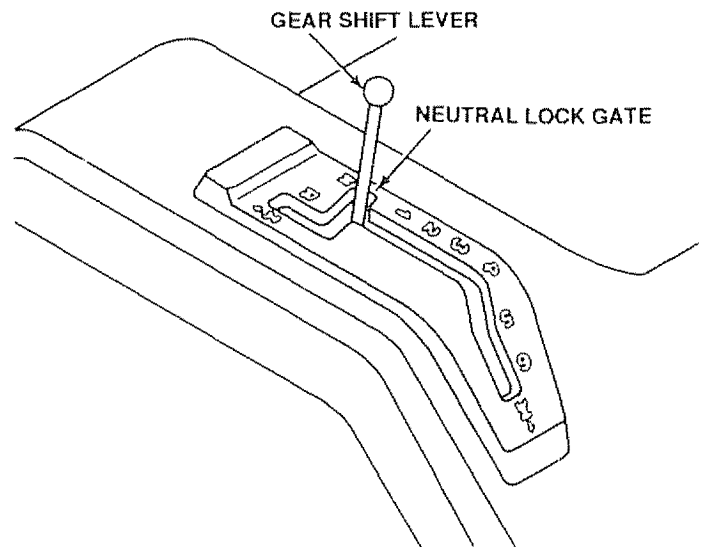
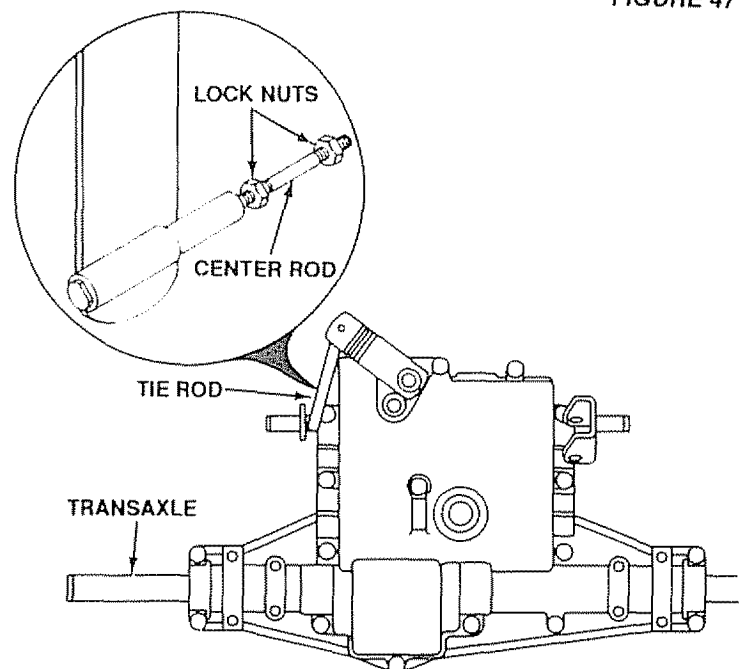

FIGURE 47
FIGURE 48
The transaxle should be in neutral when the gear shift lever is in the neutral (lock gate) position (Fig. 47). The adjustment is preset at the factory; however, if adjustment is needed, proceed as follows:
- Using a 7/16" wrench, loosen two (2) locknuts on tie rod (Fig 48 - inset)
- Turn center rod (Fig 48 - inset) until gearshift lever falls into neutral lock gate on fender console (Fig 47)